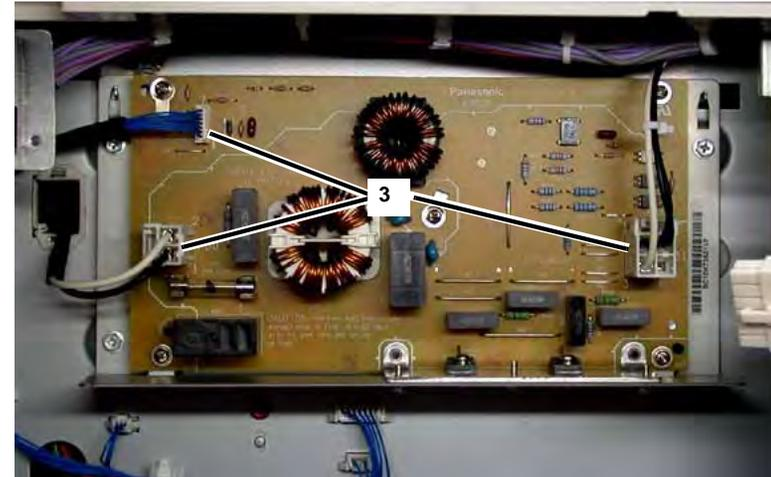

Figure 1 PJ's
3. Disconnect the AC Driver PWB connectors (3) (Figure 1).